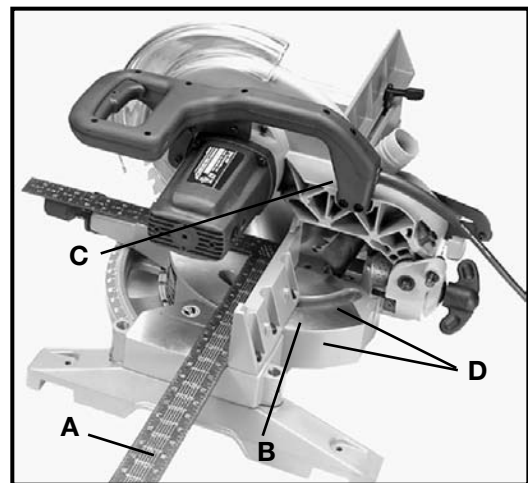

Fig. 15
4. The pointer is provided with two additional lines (D) and (E), Fig. 15. This allows movement of the control arm exactly 1/2 degree. For example, assume the center line (C) is pointing to the 10 degree mark on the scale, as indicated, and the angle of cut is 1/2 degree to the right. Move the control arm until the right line (E) lines up with the next line on the scale. The angle of cut will then be changed 1/2 degree to the right. If you change the angle of cut 1/2 degree to the left, use the left line (D) in the same manner.
3. Place one end of a framing square (A) against the front of the fence (B) and the other end against the blade (C), with the blade locked in the down position. The fence should be 90 degrees to the blade.
4. If an adjustment is necessary, the fence, (B) Fig. 15, can be adjusted by loosening four screws, two of which are shown at (D), that attach the fence to the base. Use the wrench supplied. Adjust the fence (B), and tighten the four screws (D).